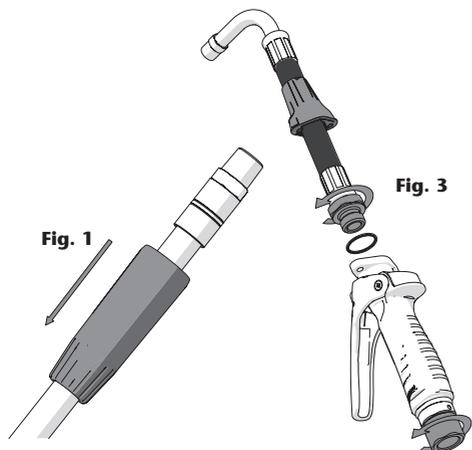

Fig. 1
- The swivel cover is compatible with 1/2" hoses, either with male fixed terminal or swivel nut (fig. 1).